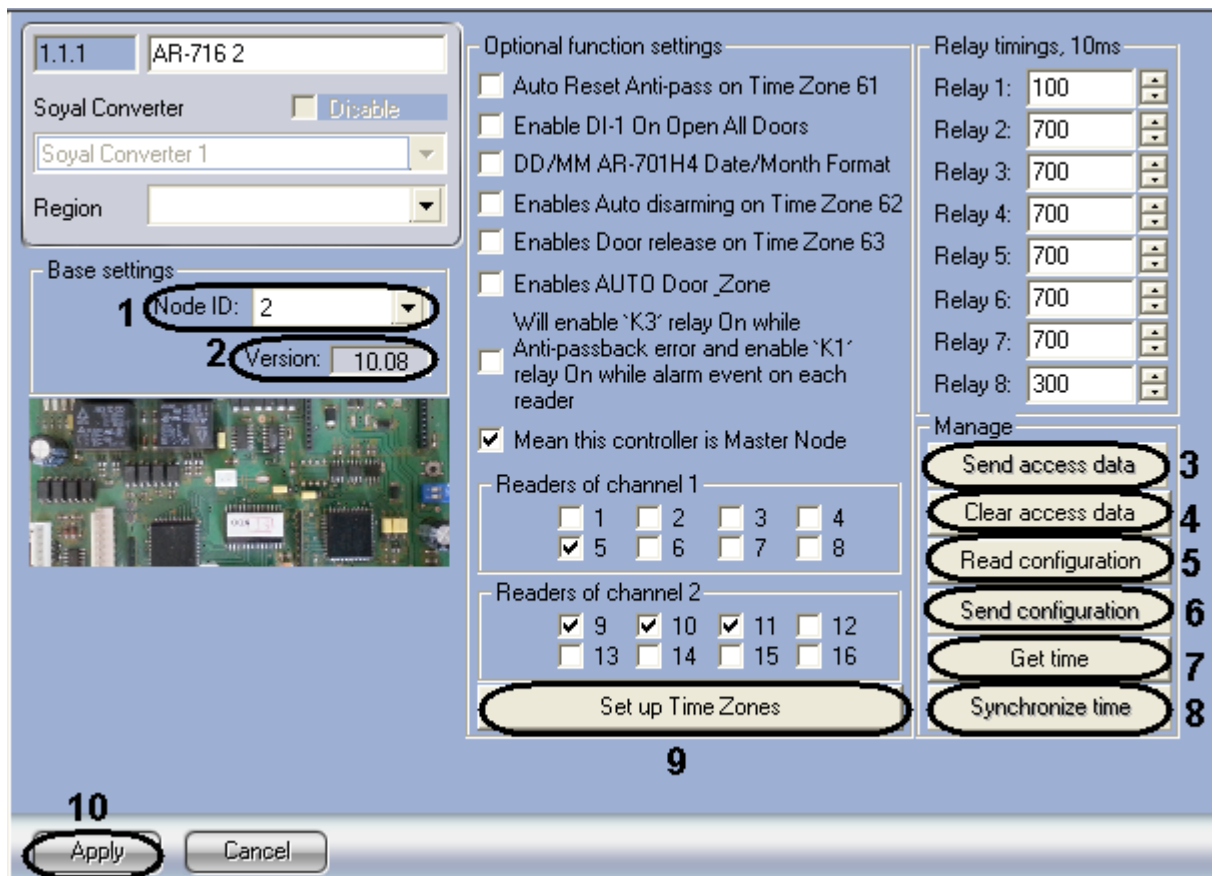

Figure 2.4—2 Setting panel of AR-716 controller
2. From the **Node ID** drop-down list select the ID of *Soyal AR-716* controller (Figure 2.4—2, 1).
3. The version of connected device is displayed in the **Version** field (Figure 2.4—2, 2).